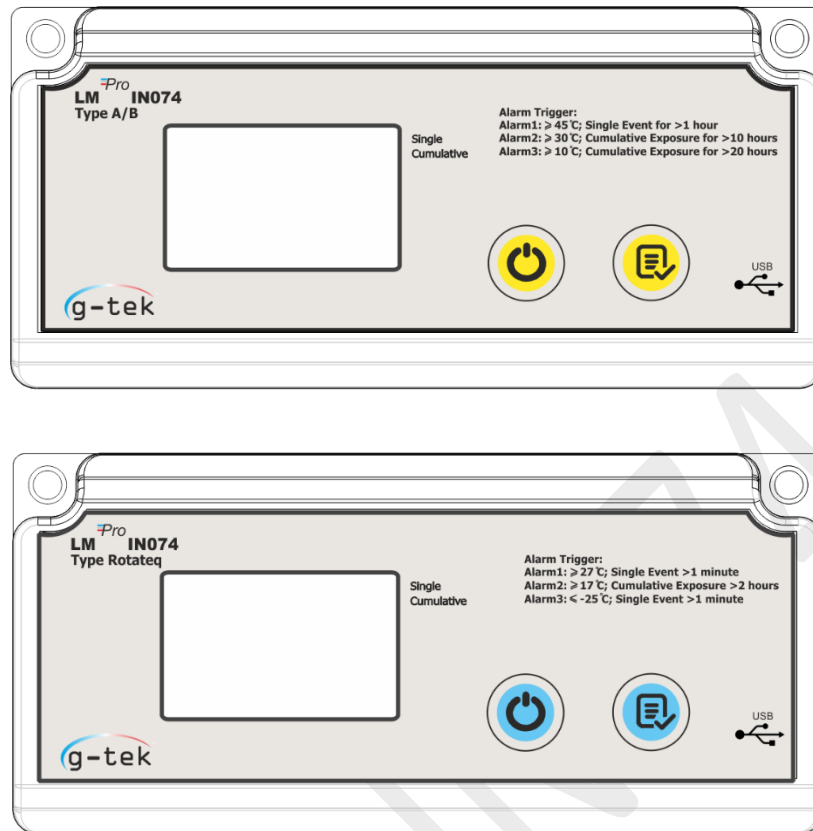

Figure 1 LM^{Pro} IN074 Electronic Shipping Indicator models
- Figure 1 shows Four models of LM^{Pro} IN074 Electronic Shipping Indicator Viz. Type C, Type Prevenar, Type A/B and Type Rotateq.